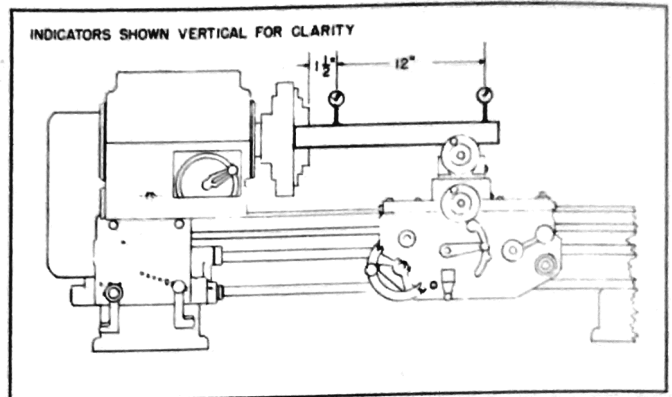

Fig. 13.
2. True up the test bar by indicating  $1\frac{1}{2}$ " and  $13\frac{1}{2}$ " from the chuck. Rotate the test bar against an indicator at these positions, see Fig. 13. The total indicator reading should not exceed .0005 at either spot.